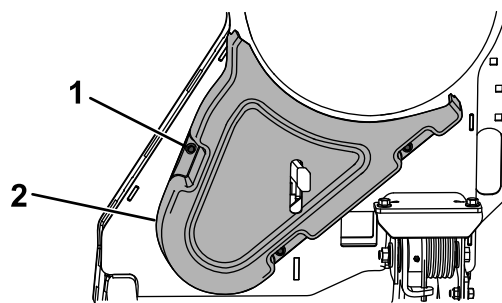

Figure 35
3. Remove the belt cover (Figure 35).